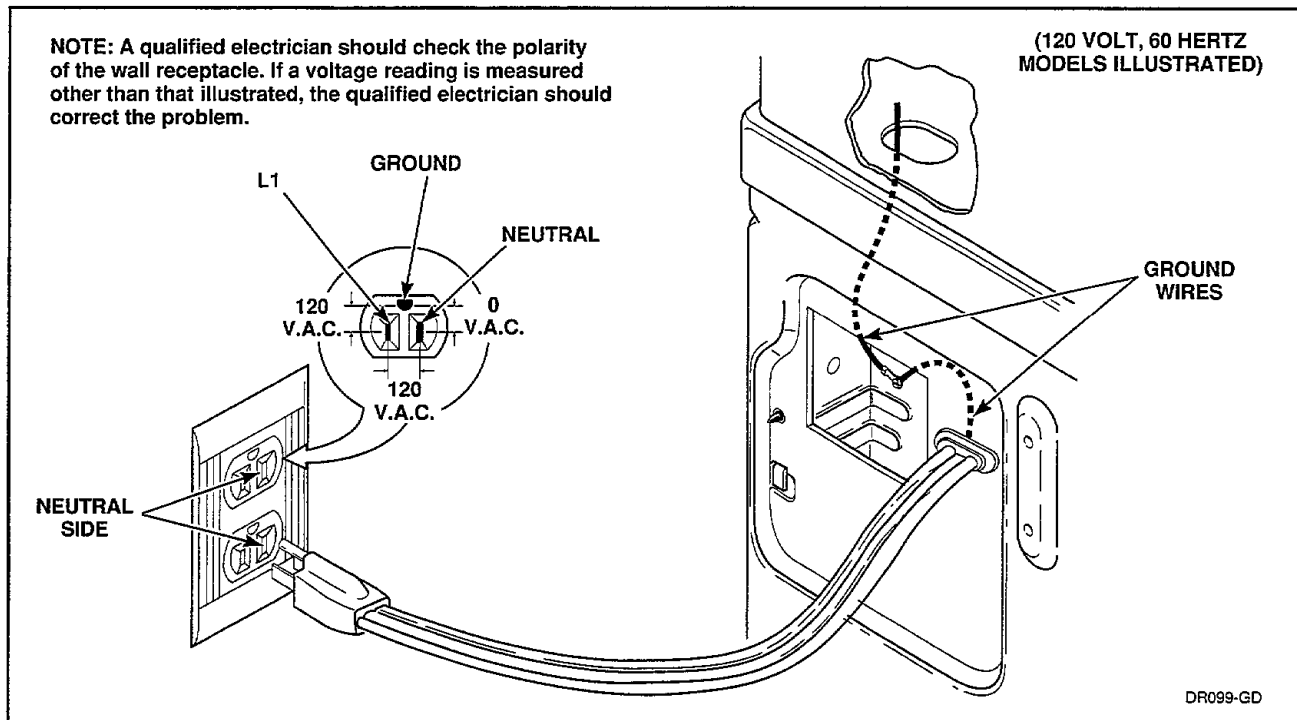

Figure 3
3. **POWER CORD TO REAR BULKHEAD AND FROM REAR BULKHEAD TO CONTROL HOUSING. WALL RECEPTACLE POLARITY CHECK, *Figure 3* (Gas Models Only).**